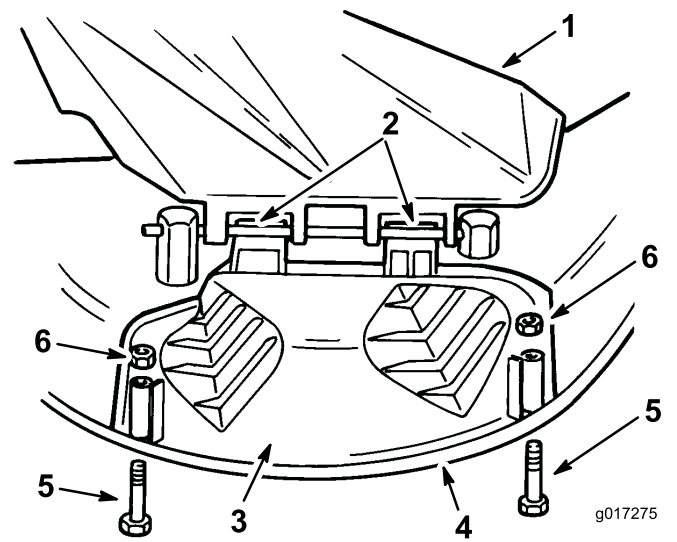

Figure 4
1. Lift the grass deflector and slide the tabs on top of the discharge cover under the grass deflector retaining rod. Rotate the discharge cover down over the opening, and onto the lower lip of the mower (Figure 4).
2. Secure the discharge cover to the lower lip of the mower with 2 bolts (1/4 x 2-3/4 inches) and 2 nuts (1/4 inch) (Figure 4).